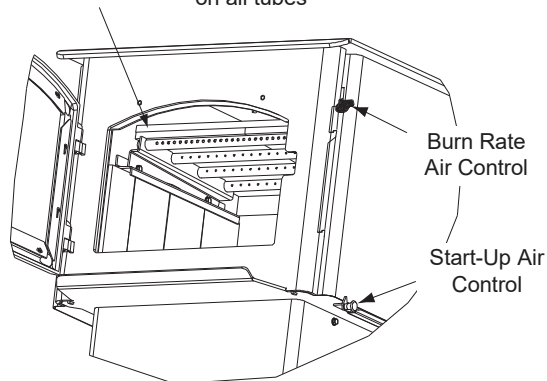

Figure 12.1
1. Confirm the baffle is correctly positioned. It should be even with the front tube and resting on all tubes (**Figure 12.1 and 12.2**).